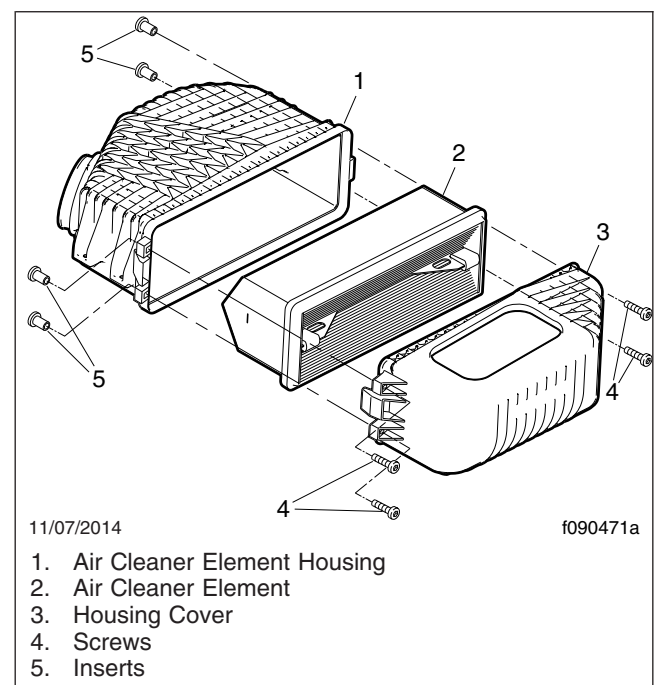
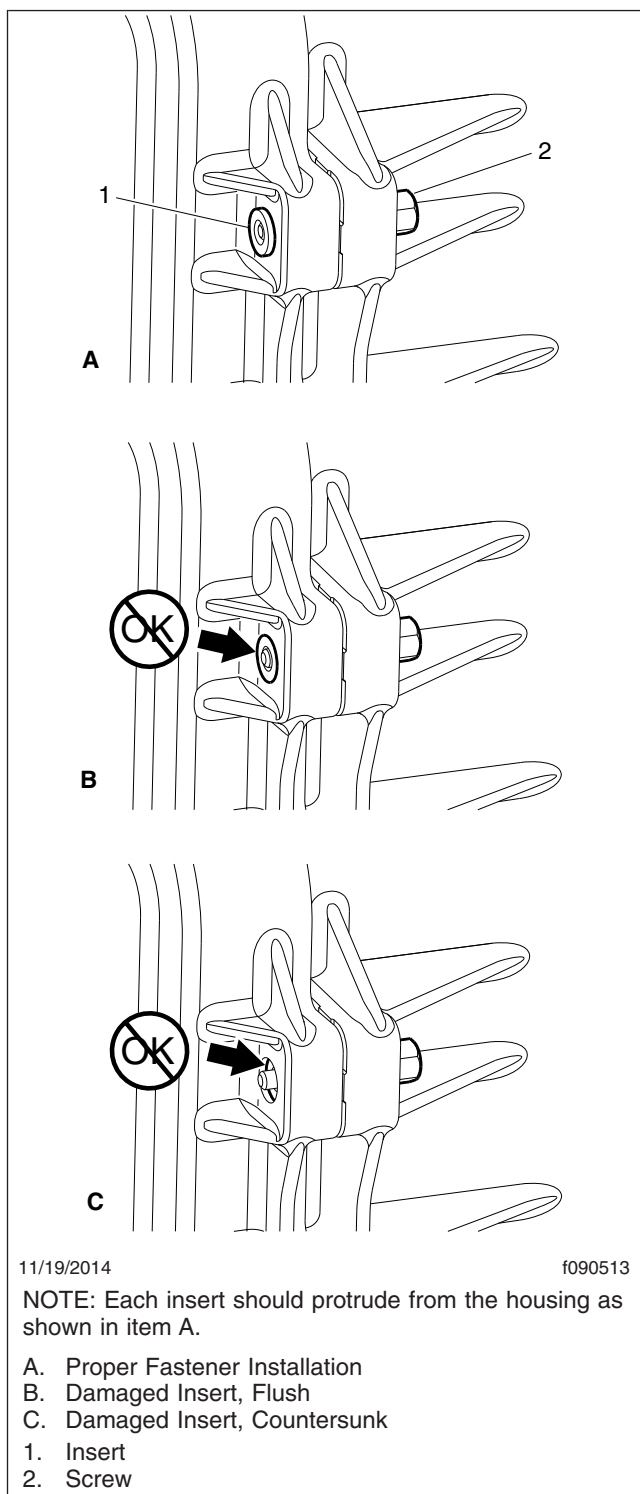

Fig. 3, Air Cleaner Assembly
Fig. 4, Air Cleaner-Housing Fasteners
3. Check the inserts at all four assembly fastener locations (see **Fig. 3**). Each insert should protrude from the housing as shown in **Fig. 4**.